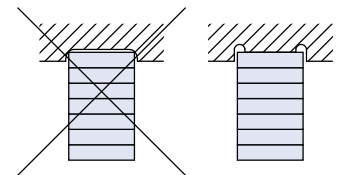

Fig. 57: Full-area contact of the actuator
- ▶ If the actuator is coupled in a milling pocket, make sure that there is full-area contact on the end surface of the actuator. For this purpose, select the dimensions of the milling pocket correspondingly or make free cuts in the milling pocket. (Fig. 57)